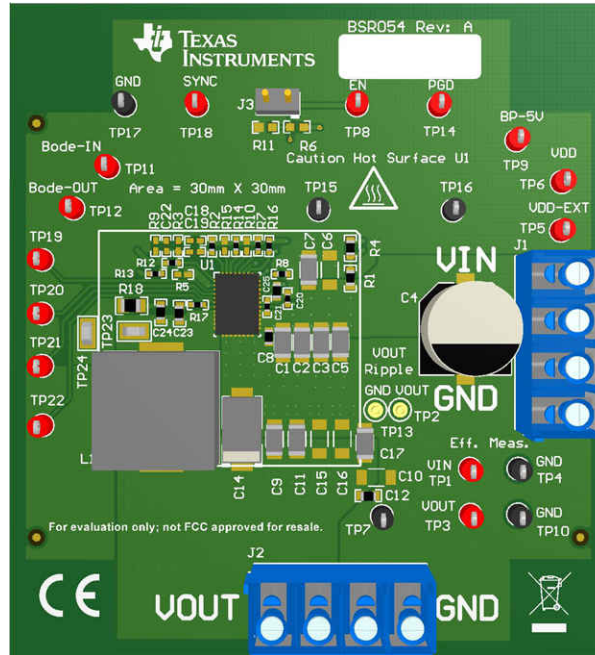

Figure 6-1. BSR054EVM Overview
| Figure 6-1. BSR054EVM Overview..... | 7 |
Multimeters: It is recommended to use two separate multimeters Figure 6-1. One meter is used to measure V_{IN} and one to measure V_{OUT} .
Output Load: A variable electronic load is recommended for testing Figure 6-1. It must be capable of 25 A at voltages as low as 0.6 V.
1. Connect V_{OUT} to J2 and V_{OUT_GND} to J2 Figure 6-1.
4. Connect V_{IN} to J1 and V_{IN_GND} to J1 Figure 6-1.